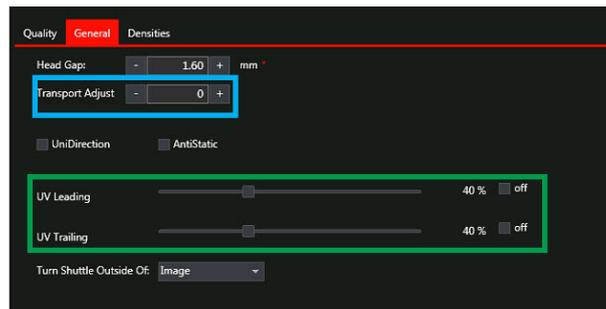
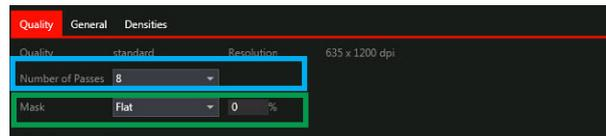

Fig.5-12: General Tab
Fig.5-13: Quality Tab
- Step 3: Navigate to the General Tab and check the UV light intensity and UV critical window (outlined in green in Fig.5-12). In order to limit the impact of the UV light on heat sensitive media, you can trim and reduce the UV light intensity and the UV critical window (curing over the full media, or only over the print area or over the full table width). This option influences the productivity.
- Step 4: Navigate to the Quality Tab and check the Mask setting (outlined in green in Fig.5-13) and then to the General Tab and check the Transport adjust (outlined in blue in Fig.5-12). When the media drive belt produces a significant step fault, you can trim the Transport Adjust. The Mask setting is mainly applied while printing a solid tint to cover some artifact on the image.
- Step 6: Navigate to the Quality Tab and check that the number of passes (outlined in blue in Fig.5-13) is linked to a CPM and to a quality mode.